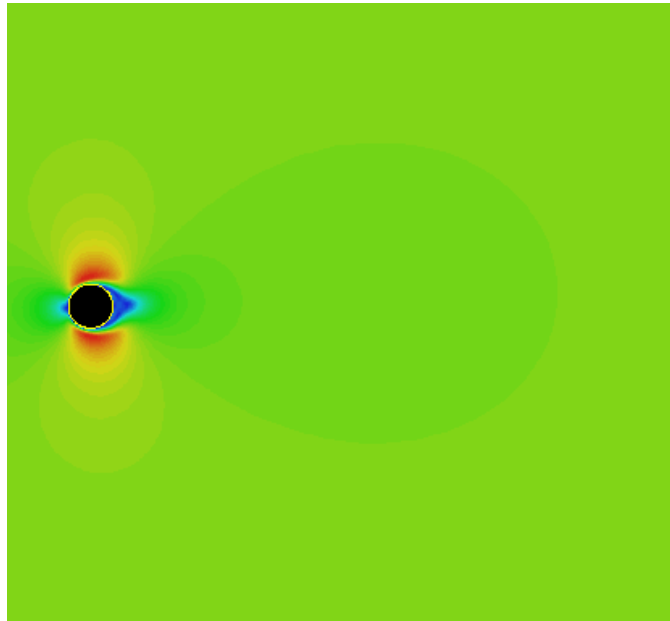

Figure 4.10.3: Contours of Velocity Magnitude at $t=66.66$ s
1. To display contours, select **contour** in the **Postprocessing Objects** window and click **Activate**. The resulting display will appear in the graphics window as shown in Figure 4.10.3. By default, filled contours of velocity magnitude are displayed.